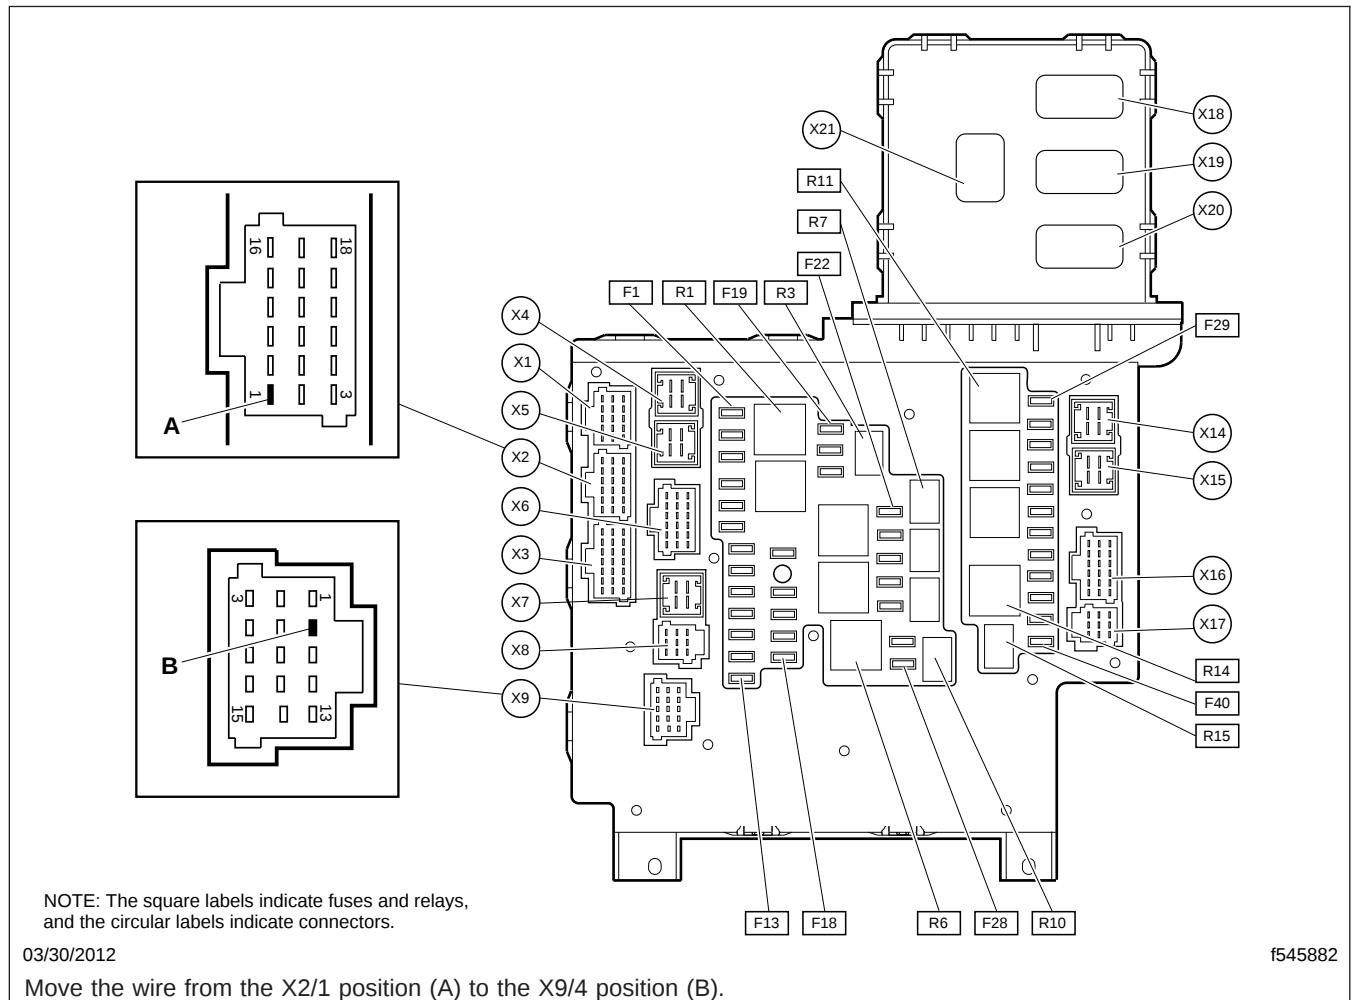

Fig. 2, SAM Cab (bottom view)
3. Remove the pin from the existing location and relocate it to the desired output. See Fig. 2 for SAM Cab pin X2/1 and X9/4 connector locations, and Fig. 3 for SAM Cab X13/1 connector location.